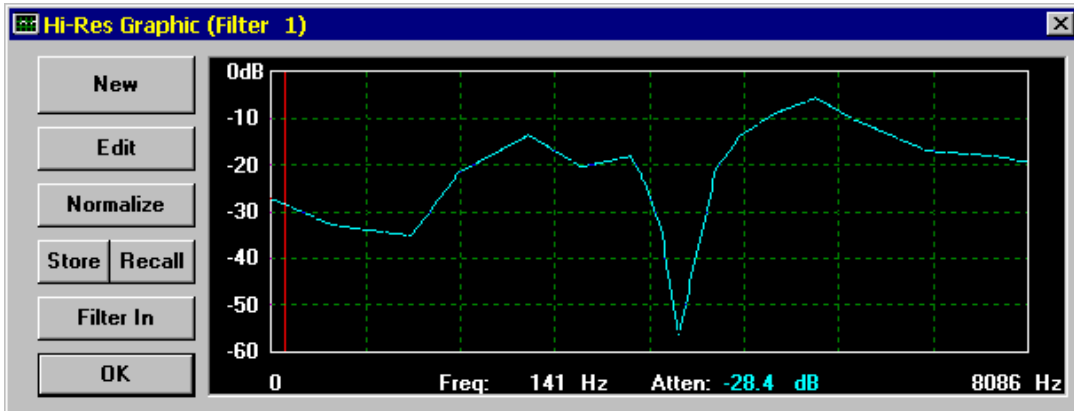

Figure 4-49 Completed Hi-Res Graphic Draw
5. Complete drawing the filter curve as shown below (Figure 4-49) by drawing points all the way to the right edge of the filter display area.